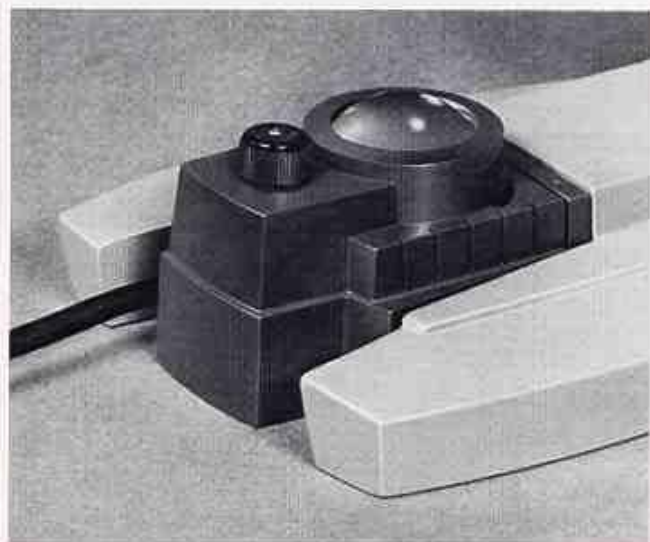

Figure 23. Cat. No. 1034 Illuminator
- a. Cat. No. 1034. This illuminator (figure 23) is designed specifically for monocular models. If ordered with the microscope, it comes attached to the base. If ordered separately, it is easily attached by means of the two screws on the under side of the base. It utilizes a 15 watt medium screw base, 115 volt lamp, and plugs directly into a 115 volt AC outlet. A convenient on-off switch is located at the top of the illuminator.